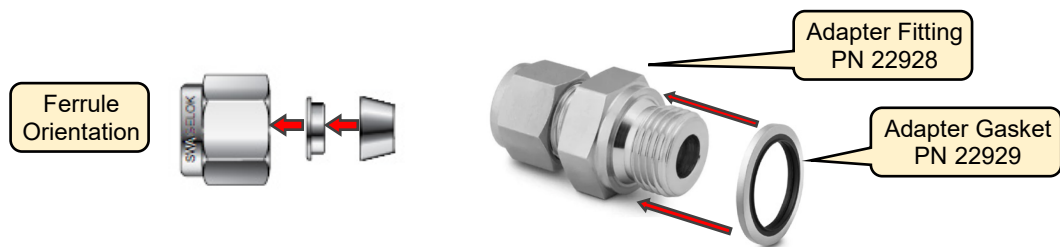
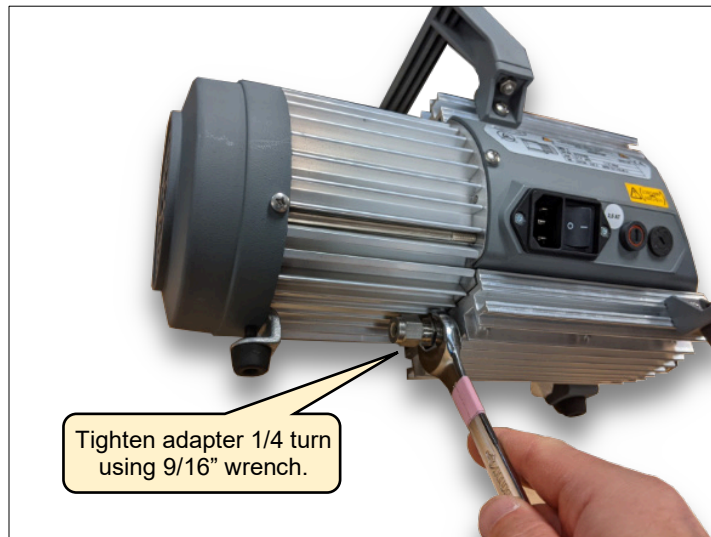

Figure 73: Adapter Assembly
Figure 74: Exhaust Adapter Fitting Installation
4. Slide the adapter gasket PN 22929 onto the adapter fitting PN 22928 (Figure 73), screw it into the pump exhaust port, and then tighten it 1/4 turn using a 9/16” wrench (Figure 74).